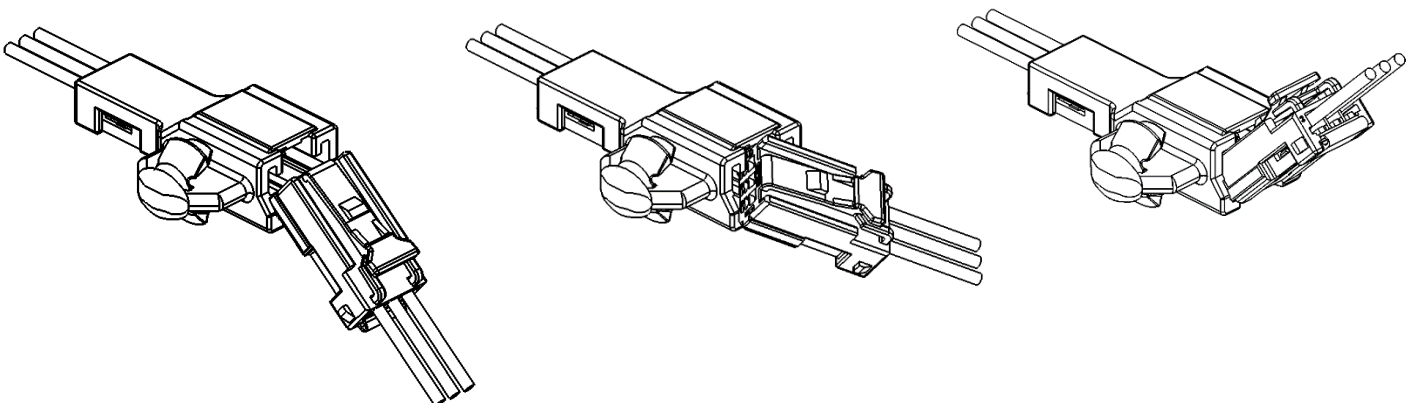

Fig 38. Mating orientations (not advisable)
① Only plug the connector in the direction instructed above. Do not forcefully plug in any orientation shown in Fig.38.